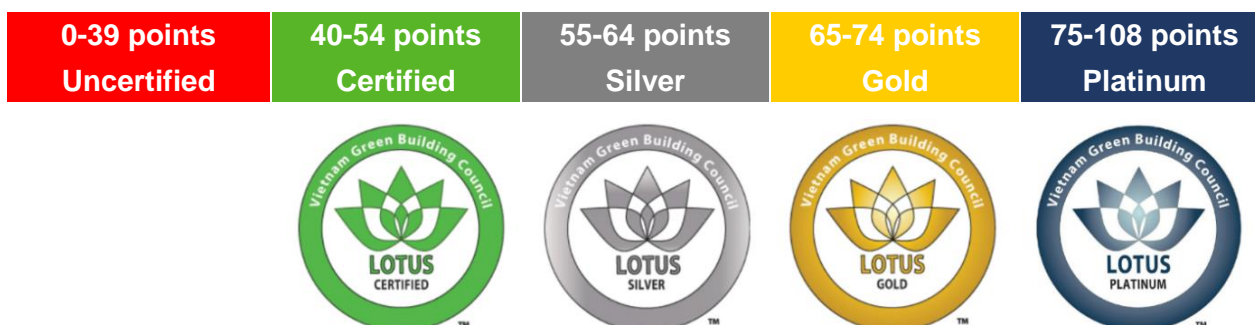

Figure 1: Certification System & Performance levels
The thresholds for Certification (Figure 1) have been set up after a survey of several certification systems including: LEED (US), Green Star (Australia), GBI (Malaysia), BEAM Plus (Hong-Kong) and Greenship (Indonesia).
As a consequence of this research, the first certification level for LOTUS NC has been benchmarked at 40% (LOTUS Certified) of the total amount of points available (equal to 100 points with the 8 points reserved for the Exceptional Performance Category not being considered). This value reflects a good first level of performance and the minimum required for certification. The following thresholds correspond to 55% (LOTUS Silver), 65% (LOTUS Gold) and 75% (LOTUS Platinum) of the total number of points as shown in Figure 1.